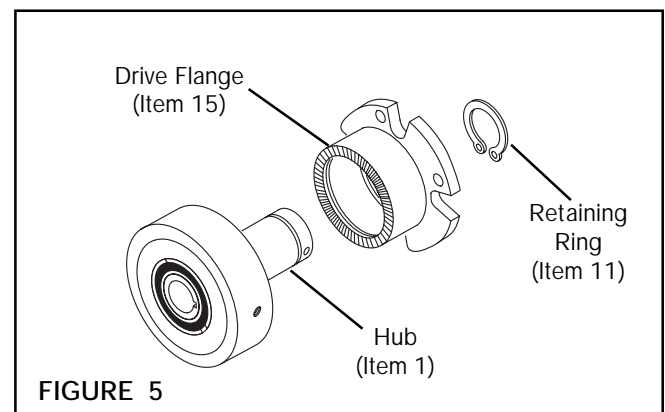

FIGURE 5
2. Remove Retaining Ring (Item 11) (See Figure 5).
3. Press Hub (Item 1) out of Drive Flange (See Figure 5).